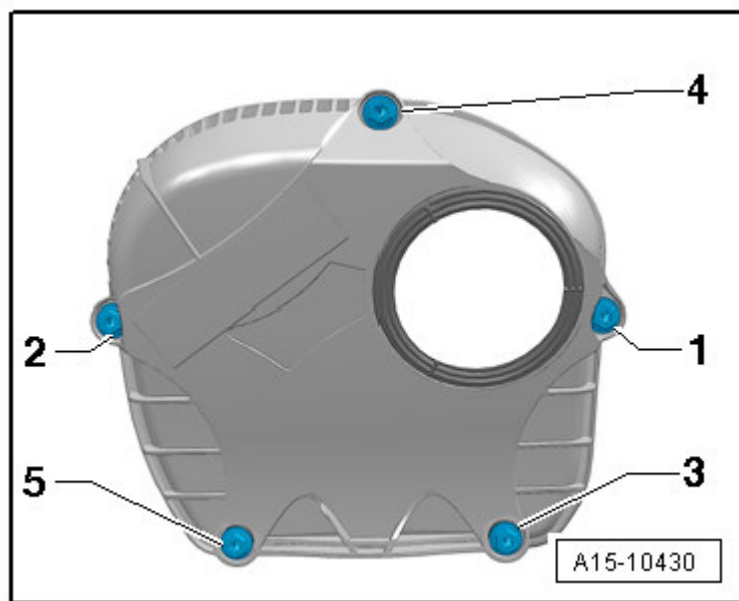

Fig. 10: Identifying Upper Timing Chain Cover - Tightening Sequence
- Tightening sequence, refer to **Fig. 10**.